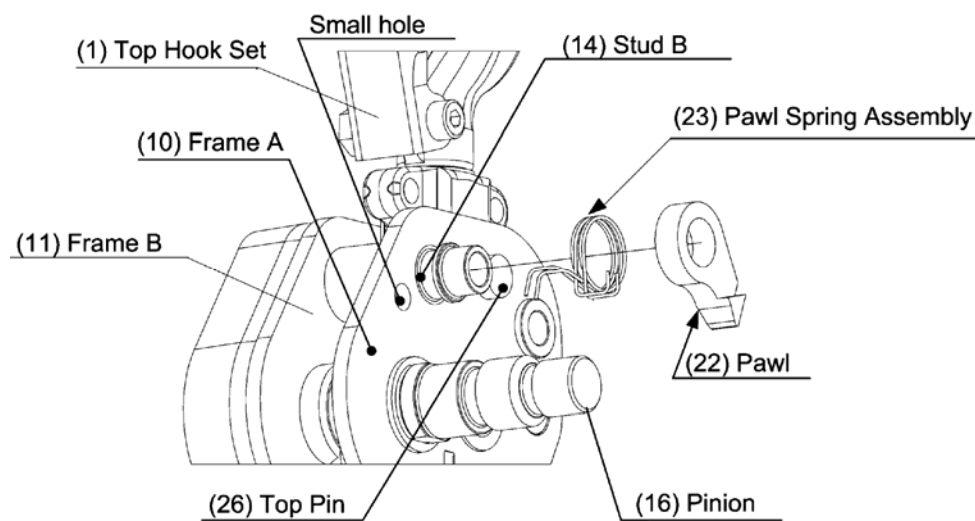

Figure 5-13 Pawl and Pawl Spring Attachments
- 3) Attach (1) Top Hook Set between (10, 11) Frame A and B and insert (26) Top Pin into the hole for the hook in Frame A. Refer to Figure 5-13.
Refer to Figure 5-13 and proceed as follows: